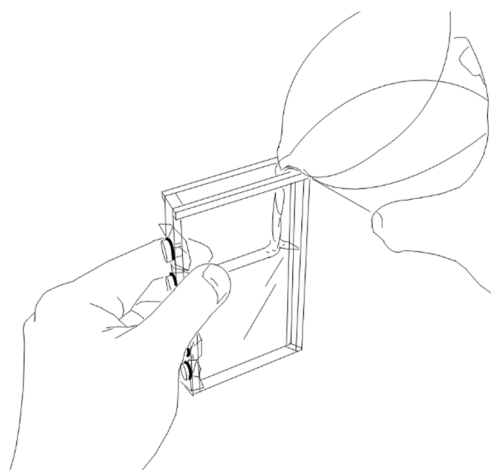

Fig.3 Pouring water
1. Pour water from a beaker into the assembled small container (see Fig.3) Please use a plastic tray for safety.